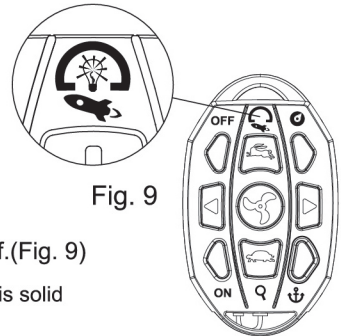

Fig. 9
4. Press “OFF” button to turn of remote control. Light is now off.(Fig. 9)